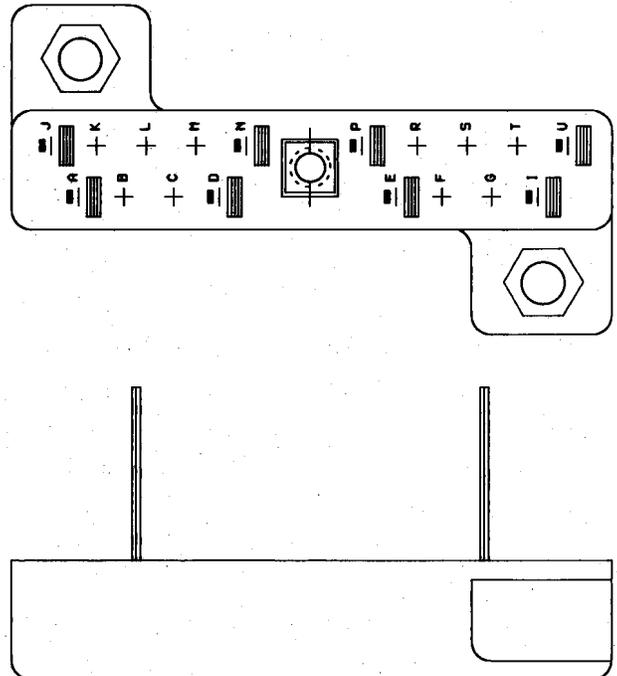

Fig. 1—KS-19333, L1 Connector
2.01 *KS-19331, L1*: The KS-19331, L1 (Fig. 1) is a polarized, multicontact, female connector consisting of a rectangular block of insulating material equipped with two mounting tabs, a threaded engaging hole, two guide pin holes, and eighteen pretensioned terminals. The contact end of the terminal is bifurcated, and each prong is provided with a contact button of No. 3 contact metal. The wiring end of the terminal is arranged for solderless wrapped connections suitable for two wraps of 24-gauge wire.